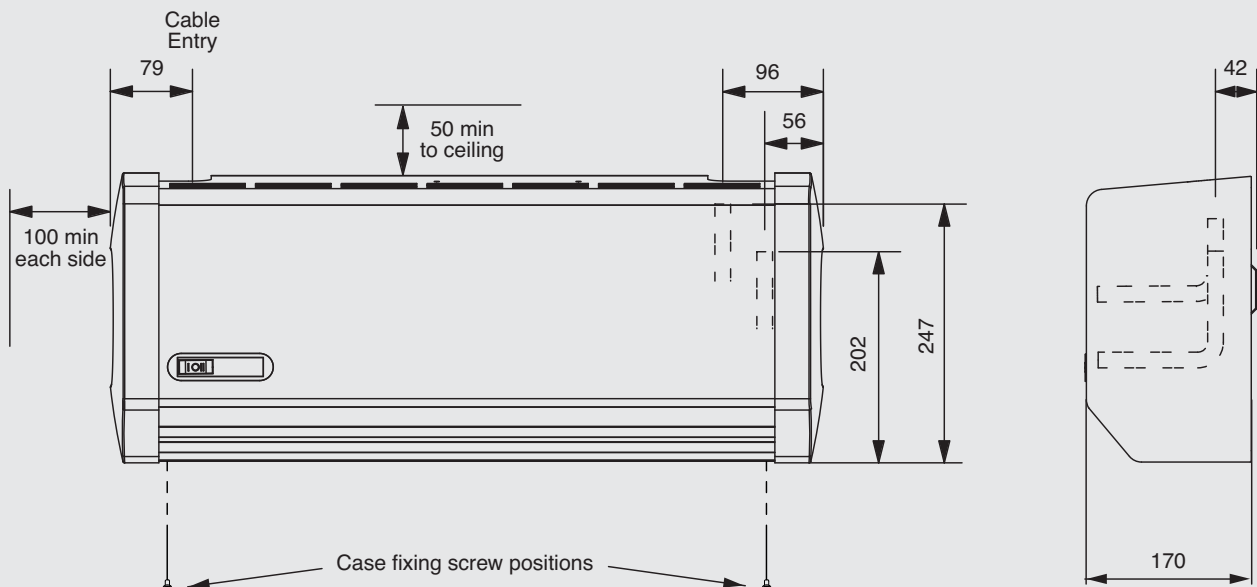

Fig. 3
- Connect unit to system flow and return pipes using the two 15mm isolating valves (see fig. 3).